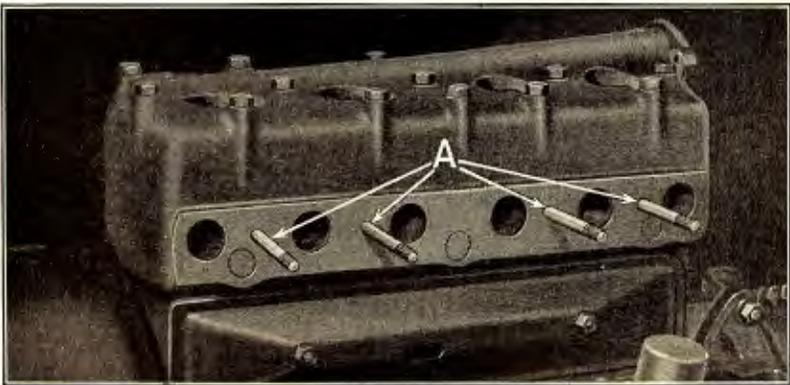

Fig. 130
- 201 Remove the four inlet and exhaust clamp studs from cylinder (See “A” Fig. 130).